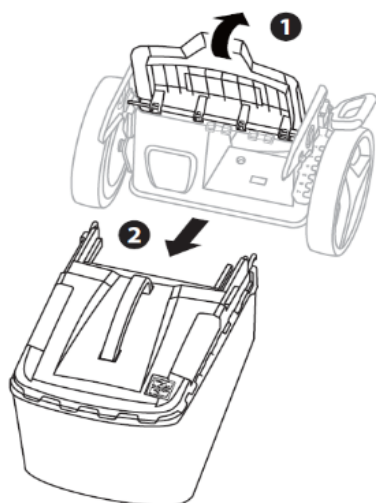

Fig.10A
1. Lift the rear cover and remove the grass catcher.(Fig.10A)